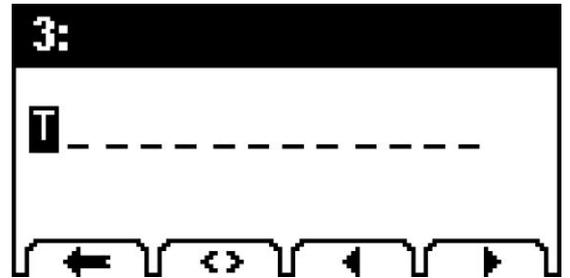

Fig. 5.2
- Enter the name of the program (Fig. 5.2). Use the  key to select the characters. If it is pressed and held down it will select characters in a descending order. Move from one digit to another using the  and  keys. Pressing and holding down  deletes the character on the left.